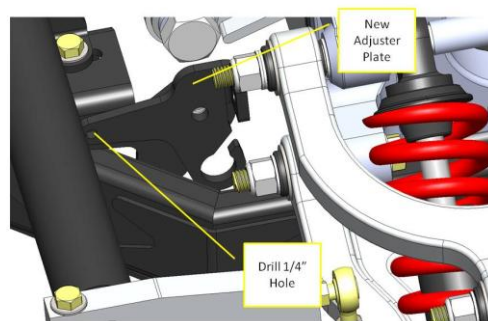

Figure 4
- h. To attach the new adjuster bolt bracket onto the swing arm a $\frac{1}{4}$ " hole will need to be drilled into the swing arm. Note: The ARB may need to be loosened in order to drill. For best results, install the adjuster bolt on the new bracket and re-use one $\frac{3}{8}$ -16x1- $\frac{1}{4}$ " HHCS w/washers, and nylock nut. Adjust the adjuster bolt such that the head of the $\frac{3}{8}$ screw is parallel to the rear differential assembly. See Figure 4.